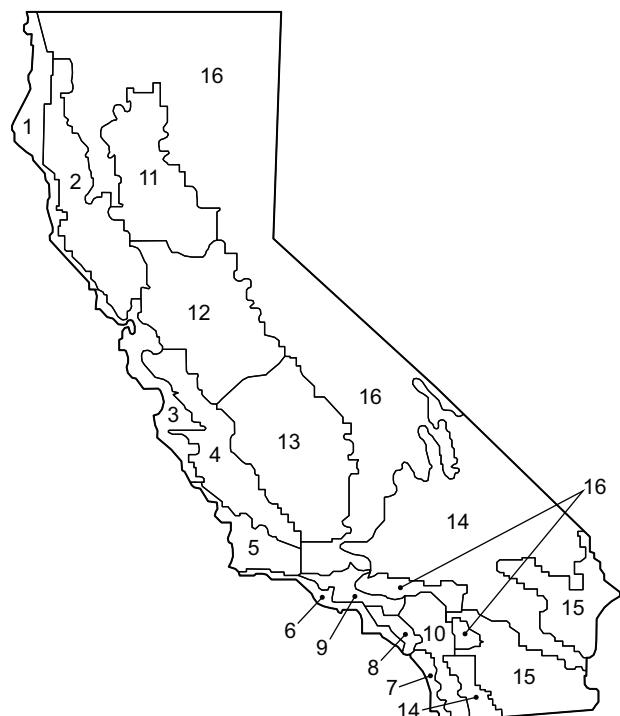

Fig. 69 — California Title 24 Zones
- b. See Fig. 69 for map of California Title 24 zones.